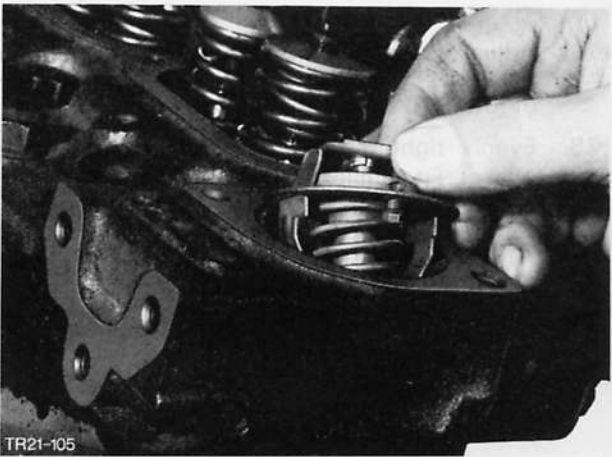

Fig. 91. Fit thermostat
69. Fit thermostat, Fig. 91, and install water neck with new gasket.